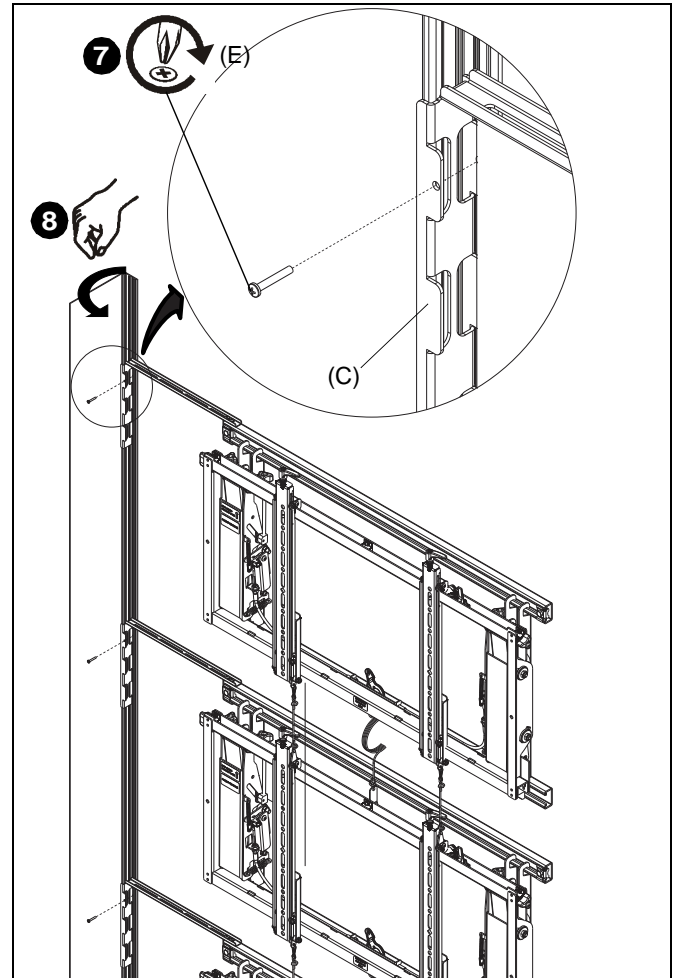

Figure 5
- Use set screws (E) to secure adapter brackets (C) to side covers (A). (See Figure 5)
- Carefully fold side cover by starting at the top and gradually working your way down. (See Figure 5)